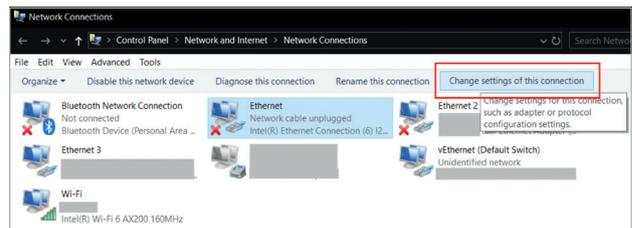

Figure 8. Changing the settings of the ethernet connection.
4. Once the ethernet adapter is selected, click **Change Settings of this connection** (Figure 8).